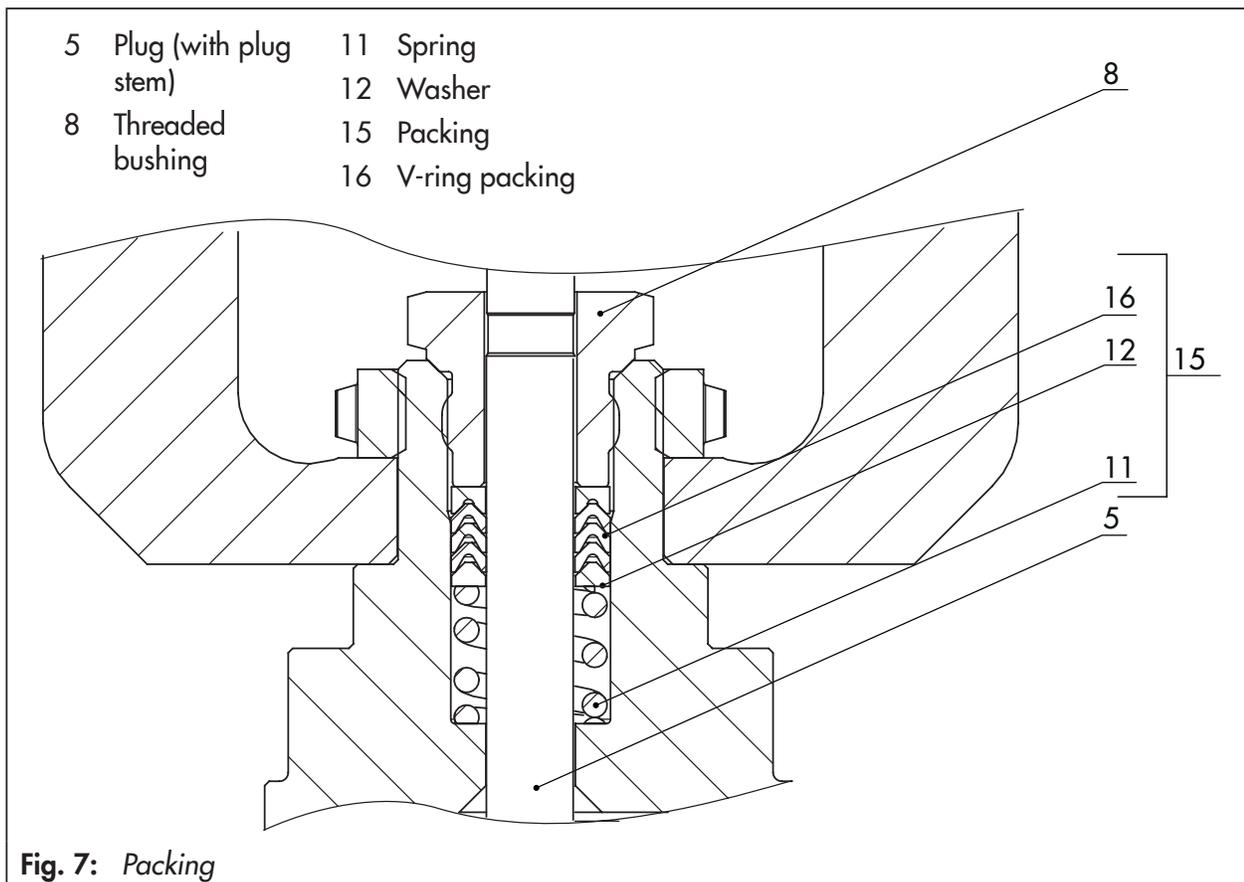

Fig. 7: Packing
8. Carefully slide the packing parts over the plug stem into the packing chamber using a suitable tool. Make sure to observe the proper order (see Fig. 7).
10. Screw in the threaded bushing (8) and tighten it. Observe tightening torques.
11. Place yoke (3) on the bonnet (2) and fasten tight using the nut (92).
12. Loosely screw the lock nut (10) and stem connector nut (9) onto the plug stem (5).